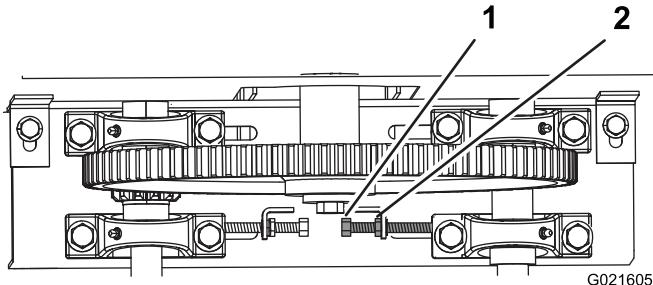

Figure 44
1. Drive chain	3. Bolts (4)
**Note:** To slide the pillow-block bearings to the left, you must loosen the jam nut and tensioner bolt (Figure 44). To slide the pillow-block bearings to the right, you must loosen the motor mounting nuts and bolts (Figure 36).